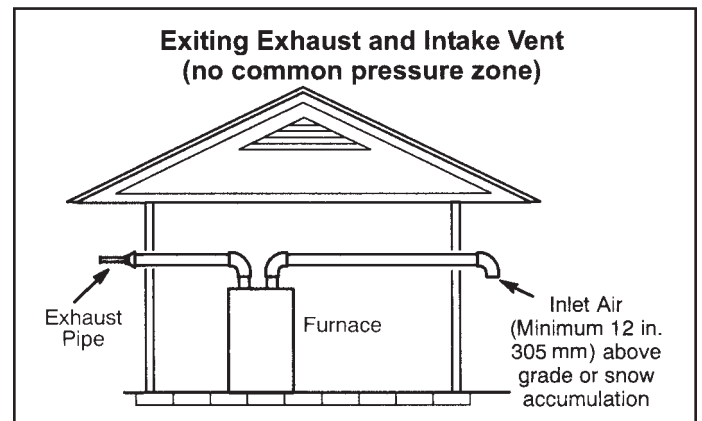
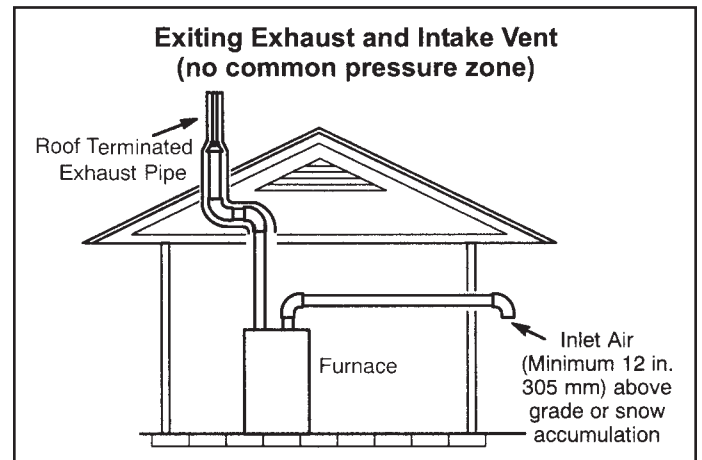

Figure 32.
Figure 33.
1. Vent terminations are not required to be in the same pressure zone. You may exit the intake on one side of the structure and the exhaust on another side (Figure 32). You may exit the exhaust out the roof and the intake out the side of the structure (Figure 33).